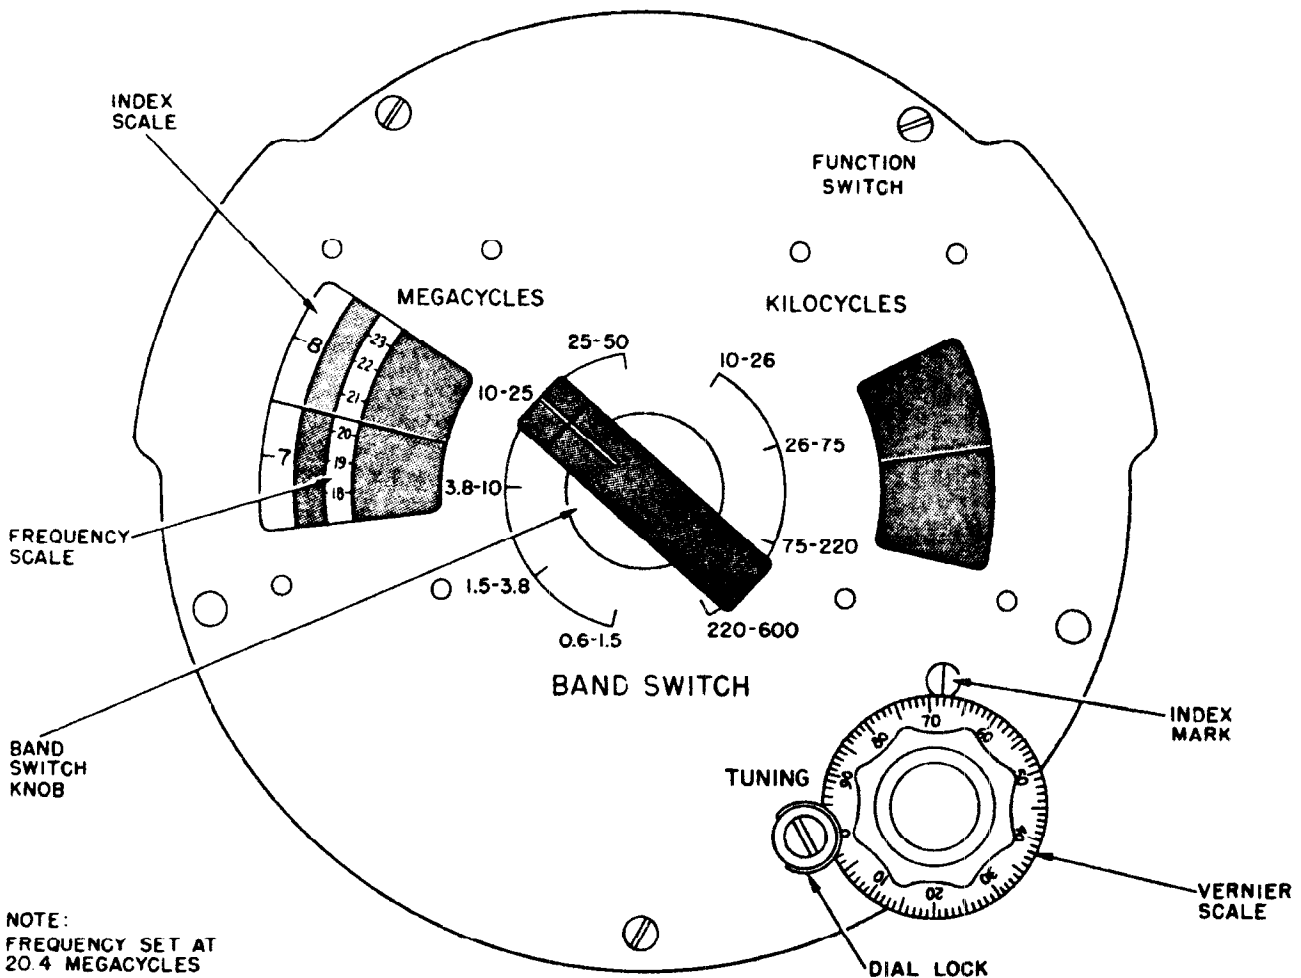

Figure 4-2. Frequency, Index Vernier Scales
g. Add number obtained in step f. to numerical setting for lower check point as obtained in step b.	g. Numerical setting for lower check point was 756; desired frequency is 12 dial divisions above this, or $756 + 12 = 768$ . See figure 4-2.